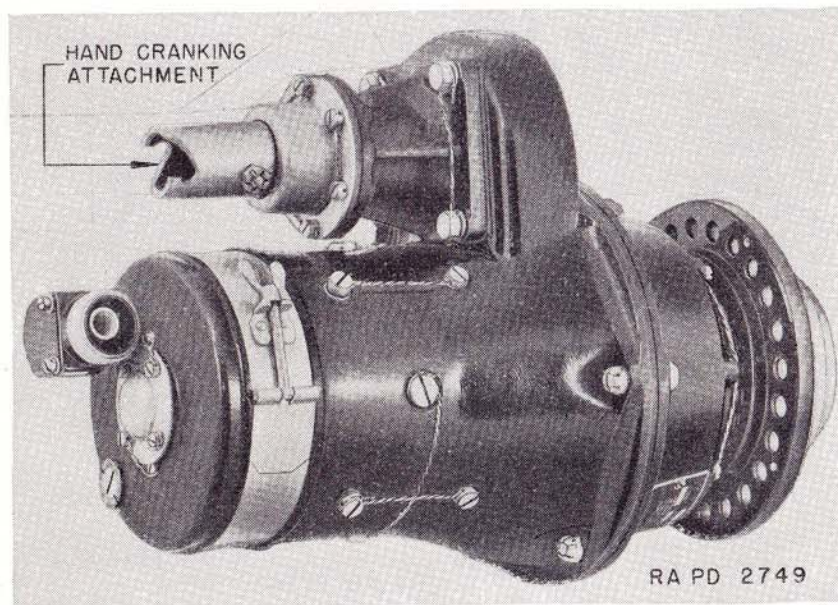

FIGURE 26. Electric starter.
**52. Starter** (fig. 26).—*a. Description.*—A 24-volt direct electric starter is used on this engine. The starter should be used only for cranking the engine. It must not be used to move the tank when the engine is not functioning.